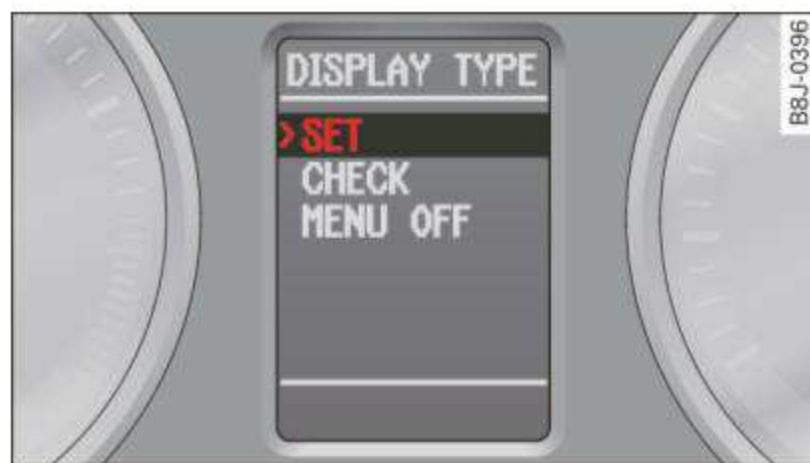

Fig. 15 Display: Start menu
- Press the **Reset** button (B) until the menu display ⇒ fig. 15 appears.